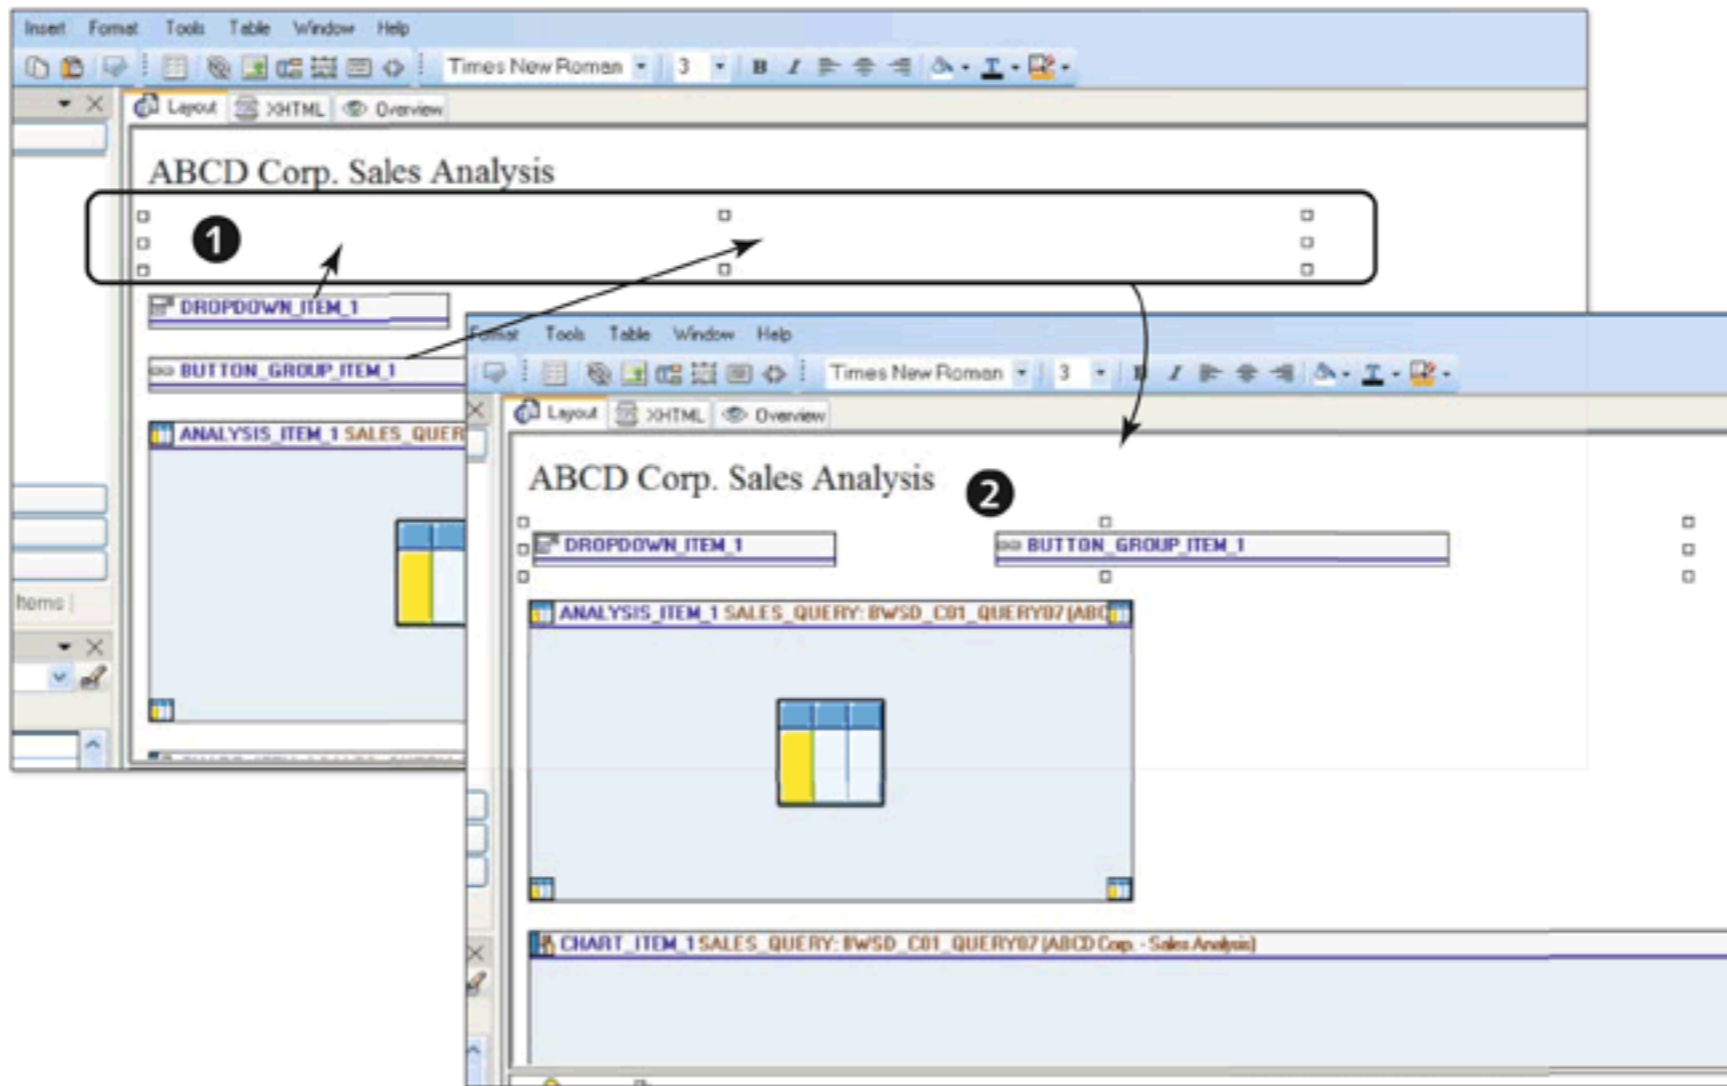

Figure 11.16 Arrange Web Items in a Table
The EDIT HTML ELEMENT box appears, in which you can customize the element per the requirement (❷). Finally, click on OK to return to the web template design screen. The table is inserted in the web template layout per the settings (❶ of Figure 11.16). To arrange the web items, simply drag them into the different cells of the table (❷).